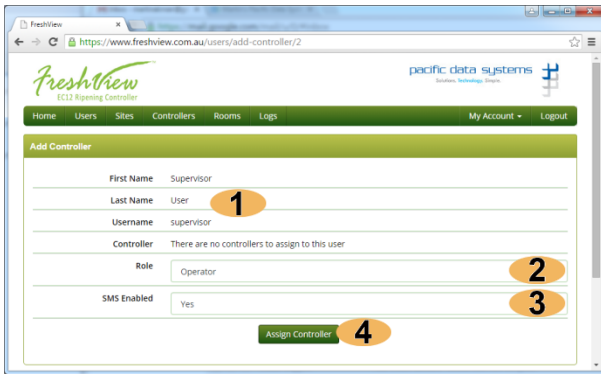

Figure 63: Assign user to controller web page.
- 9 **Assign Controller:** Assign another controller to the user. See *Figure 63: Assign user to controller web page*.